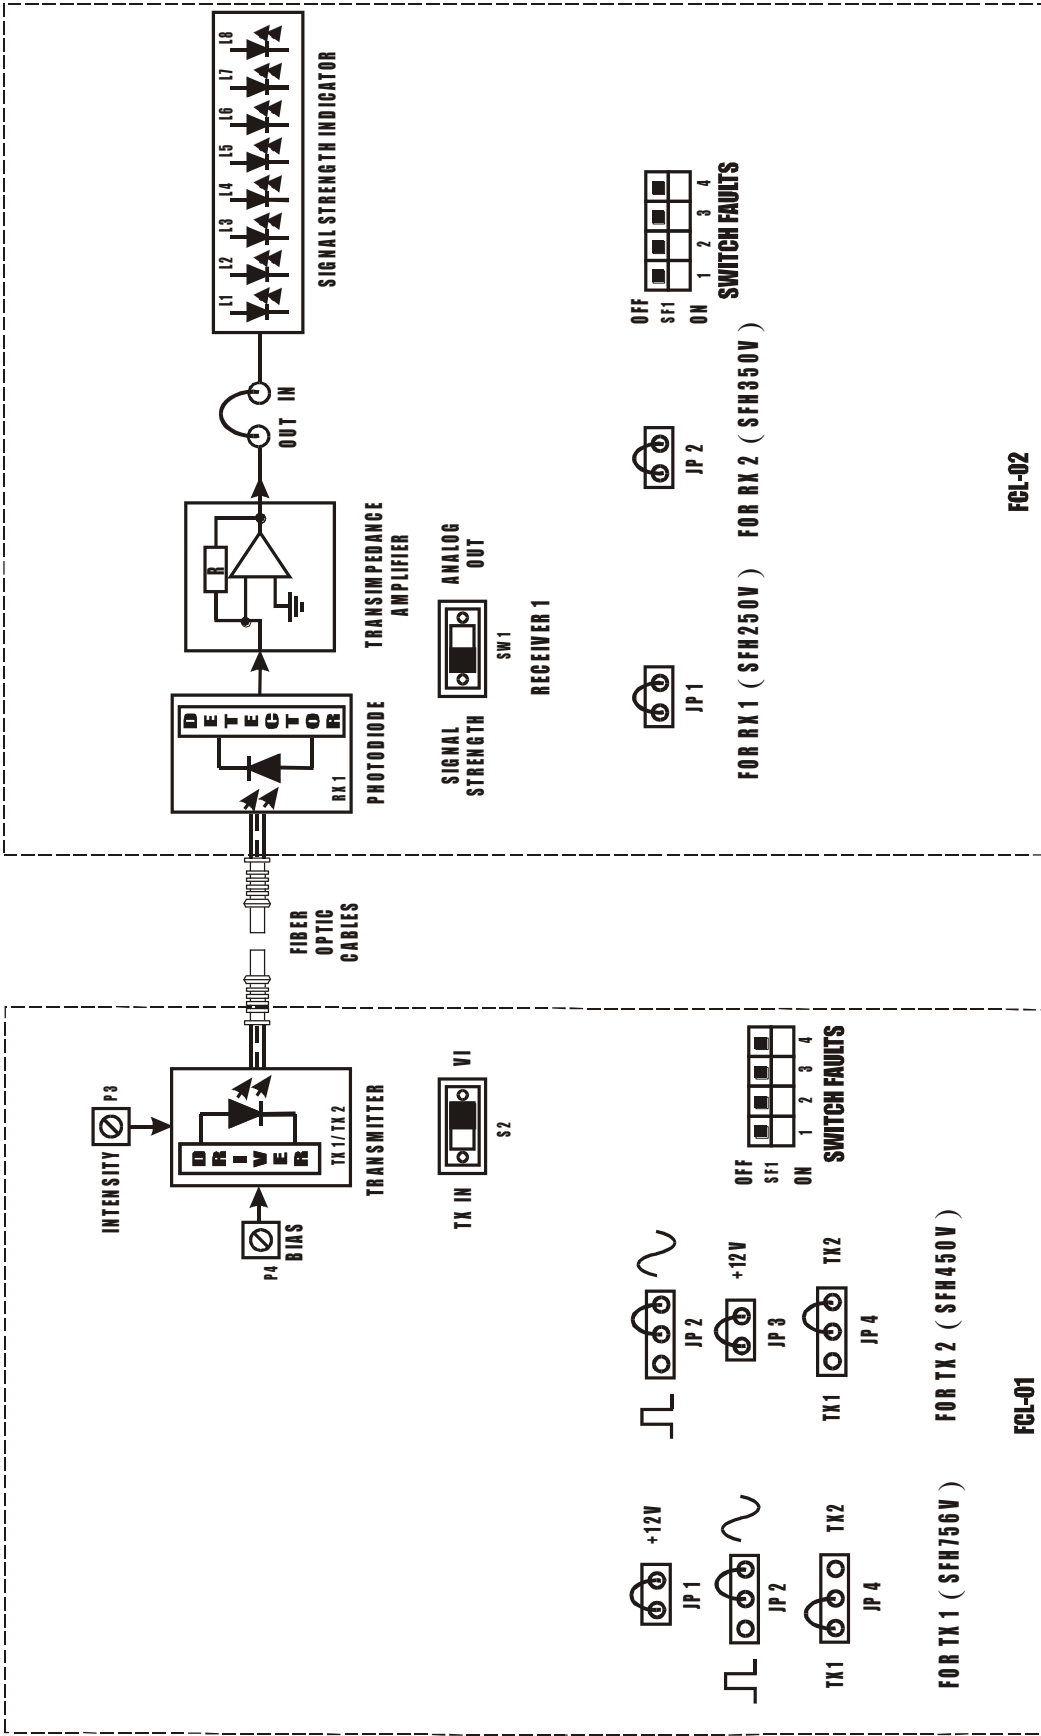

FIG. 3.1 BLOCK DIAGRAM FOR FIBER OPTIC TRANSMISSION SENSOR
- Make connections as shown in fig.3.1. Connect the power supply cables with proper polarity to FCL-01 & FCL-02 Kits. While connecting this, ensure that the power supply is OFF.
- Keep the jumpers **JP1**, **JP2**, **JP3** & **JP4** on FCL-01 as shown in fig.3.1.
- Keep the jumpers **JP1** & **JP2** on FCL-02 as shown in fig.3.1.